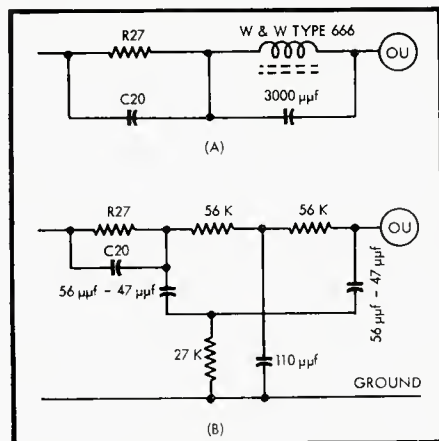

Fig. 11. Two types of bias-trap circuits which may be employed if considered desirable, although they are not absolutely necessary.
(4) Some constructors may consider fitting bias traps in the head feed circuits, to keep r.f. off the output plates. It seems a rather unnecessary refinement, as bias and signal do go together, but two circuits for the purpose are given in Fig. 11.